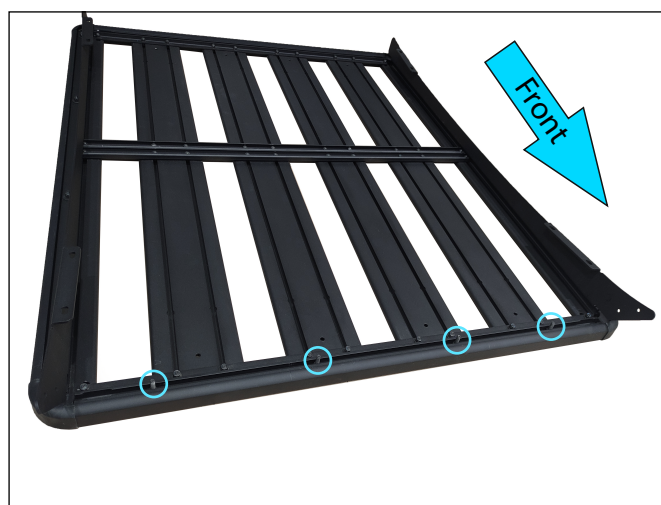

Fig. 11
7. Insert 4 bolts M8x20 (item B) into T-slot in the front of roof rack as shown in fig.11.